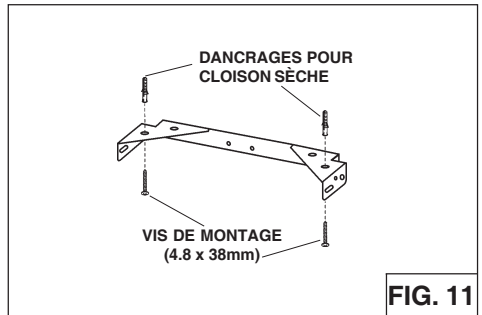

FIG. 11
3. Secure the bracket assembly to the ceiling using (2) 4.8 x 38mm mounting screws and drywall anchors (Fig.11). Make sure the bracket is pushed into the corner, tight against the wall if necessary, and centered over the hood. Complete the installation.